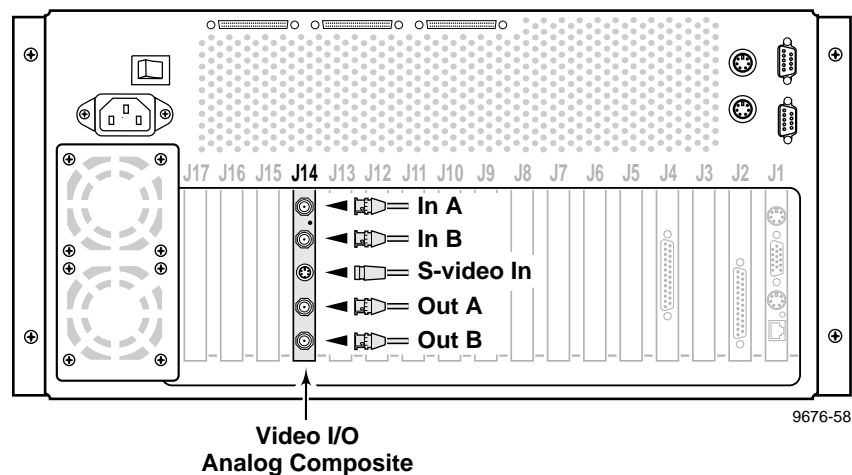

Figure 2-11. Analog Composite I/O Cable Connections
The Profile Video File Server may include one or more an Analog Composite Video In/Output boards. Figure 2-11 shows analog composite video cable connections for a typical location, slot J14. Refer to the rear panel labels or Tables 1-2 through 1-6 in Chapter 1, pages 1-9 through 1-13, to determine the slot location of this board in your system.
The Analog Composite I/O board accepts two composite analog video inputs, and provides two composite analog video outputs. The board is also equipped with an S-Video connector, which allows video input to the Profile system directly from a source such as a video cassette recorder. However, the S-Video device takes the place of one of the inputs (either In A or In B). The board provides time base correction for any one input. If the Analog Composite Video I/O board is installed, refer to Figure 2-11 for an example and:
2. Connect analog composite input and output cables to the Analog Composite I/O board. See Figure 2-11 for an example.